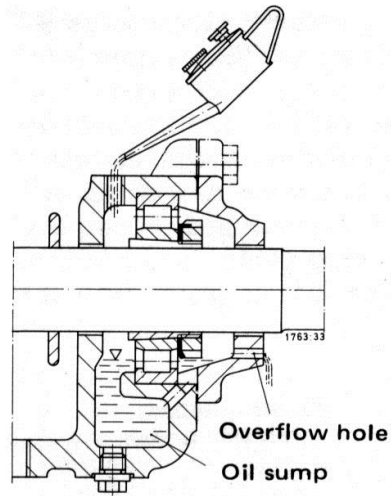

Fig. 7 - Oil splash lubrication
Front end: 1 deep groove ball bearing in accordance with DIN 625 and standard bearing housing (see Figs. 7 and 8).
On request, we can fit constant level oilers (638), which will necessitate the sealing of the shaft against the bearing housing by means of felt rings (422.1) (see Figs. 7 to 9).